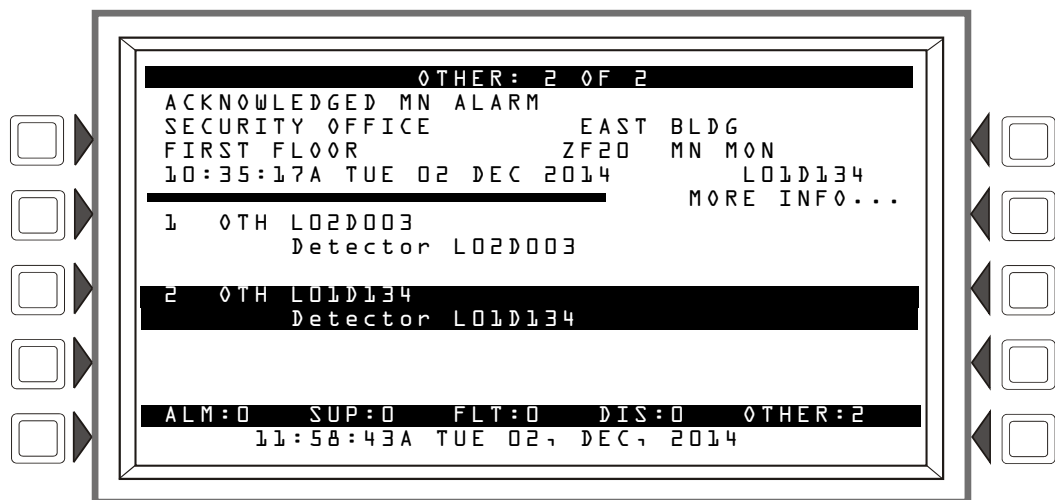

Figure 2.9 Mass Notification Alarm Message Display Example
- Displays MN ALARM in the upper left corner of the display, a Type Code that indicates the type of device that activated the alarm, and other information specific to the device. The message occupies the top four lines of the screen, replacing the System Normal message as shown in Figure 2.9 below. Refer to “Mass Notification Events” on page 8 for a full description of each message field